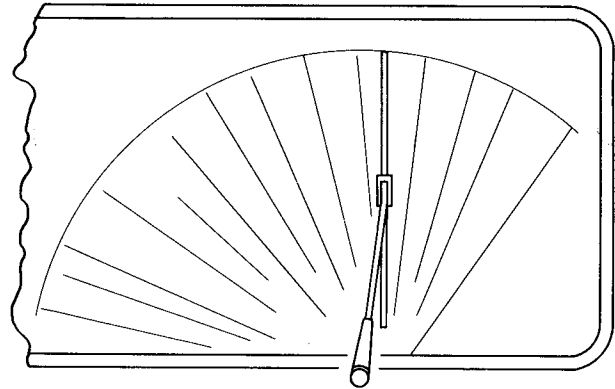

FIG. 1
**1. WIPER SPEED** The wiper blade should travel across a *wet* windshield at a minimum rate of 140 single strokes or 70 cycles per minute while the engine is idling. A paper boot may be used on the blade to check the wiper speed under conditions similar to those on a wet glass. See Fig. 1.